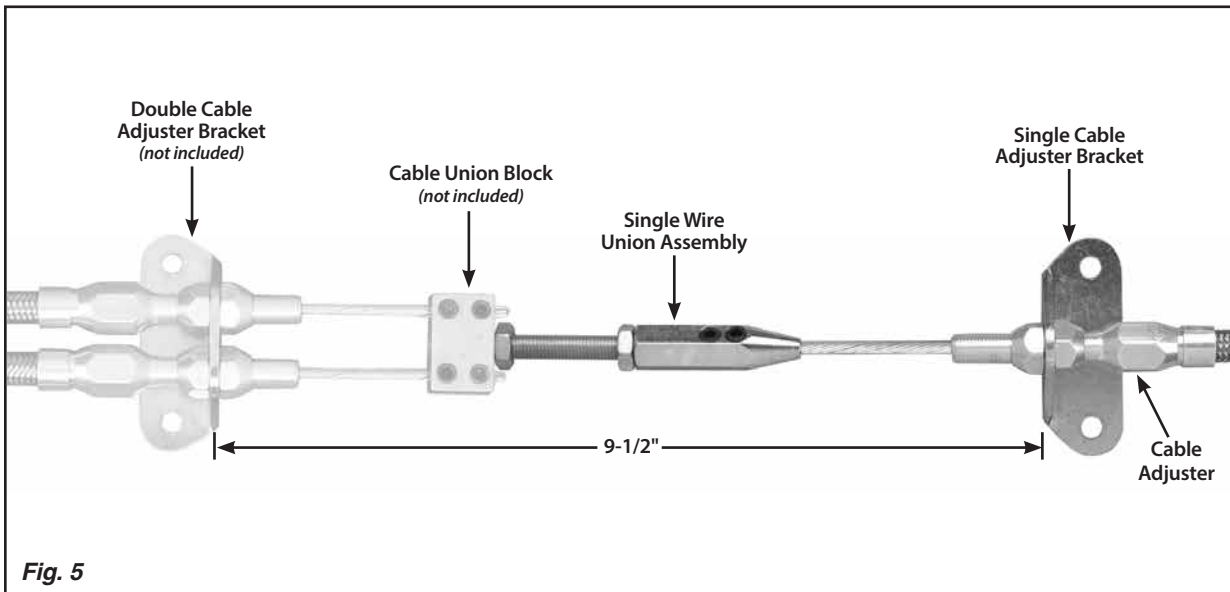

Fig. 5
Step 4: Determine where the single cable adjuster bracket will be mounted. The single cable adjuster bracket must be aligned with the double cable adjuster bracket (not included, part of the rear brake cable kit) so that the cables are being pulled in a straight line, not at an angle. If you are using Lokar's Universal Emergency Brake Cables on your rear brakes, the single cable adjuster bracket should be mounted approximately 9-1/2" in front of the double cable adjuster bracket as shown in Fig. 5.